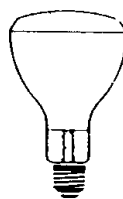

Fig.: 8
REFLETORA ELÍPTICA - Base Rosqueada de Alumínio (E27/27) - Fig.: 8 Obs.: (2), (6), (9)